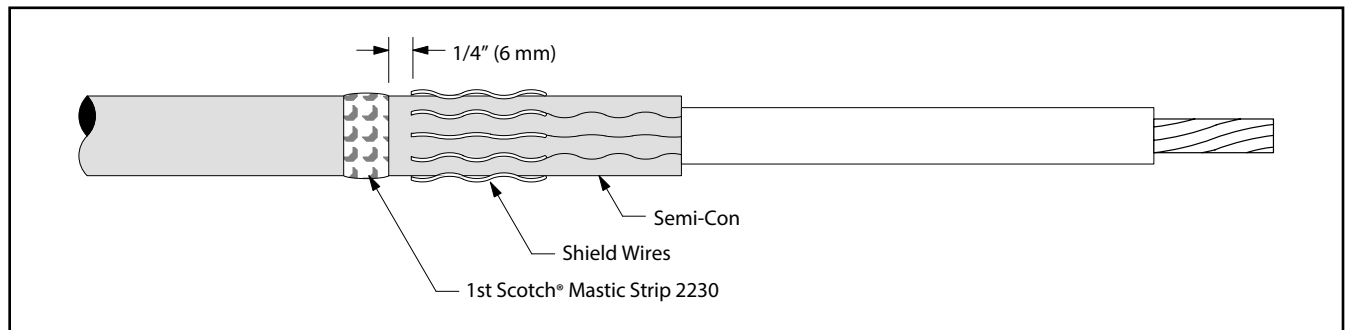

Figure 19
13.1 Select a Scotch® Mastic Strip 2230 from kit and remove white release liners. Using light tension, apply a **SINGLE WRAP** of mastic around the cable semi-conductive jacket 1/4" (6 mm) from shield wires (Figure 19). Cut off excess.